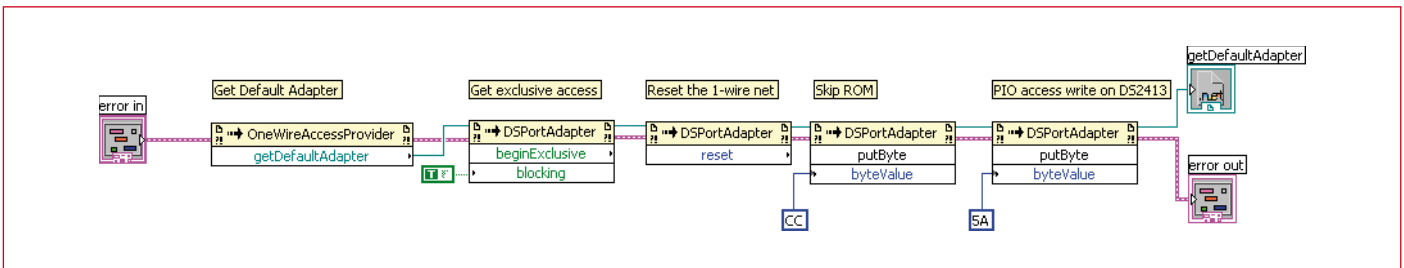

Figure 3. The Virtual Instrument called 'I²C Initialize' initialises the DS2413, after which it is ready to receive I/O data.
The LabVIEW Virtual Instrument (VI) 'I²C Initialize' (Figure 3 displays the block diagram) initializes the DS2490 and gives LabVIEW exclusive access to